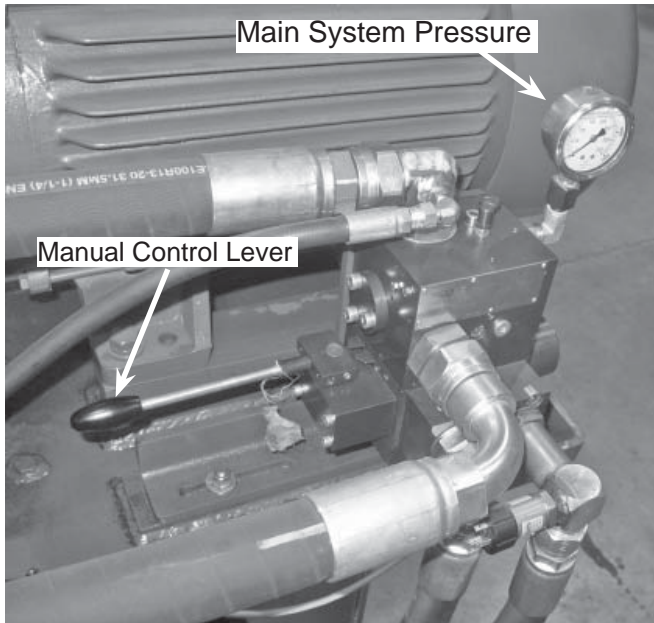

Figure 18 - Directional Valve
**Directional Control Valve** is for adjusting the direction of the plunger in MANUAL operation (see Manual Operation page 10). The Main System Pressure gauge is located on the Directional Control Valve (see Figure 18).
**Manual Operation** Place the control box SYSTEM CNTRL switch to STOP, RESTRICTION switch in MAN. Operate lever on directional valve to operate plunger (see Figure 18 page 7).